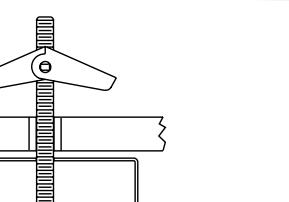

Figure 4
If drill does not encounter a stud or joist, enlarge the holes to accommodate toggle nuts & bolts (not supplied). Install the bolt(s) through the Backplate (5), a Spacer (9) then the toggle nut before completing wire connections. See Fig. 4.
- 7a. Feed the fixture and ground wires through the Canopy (4) and position the Housing (7) and Backplate Assemblies (5) near the junction box.
If drill does not encounter a stud or joist, enlarge the holes to accommodate toggle nut(s) & bolt(s) (not supplied). Install the bolt(s) through the Backplate (5), then the toggle nut(s) before completing wire connections. Discard Spacers (10) See Fig. 4.
Si la broca no encuentra un corchete o vigueta, agrande los orificios para colocar las tuercas y pernos acodados (no incluidos). Instale los pernos a través de la placa posterior y luego las tuercas acodadas antes de completar las conexiones de cables. Descarte los espaciadores (9) Ver Fig. 4